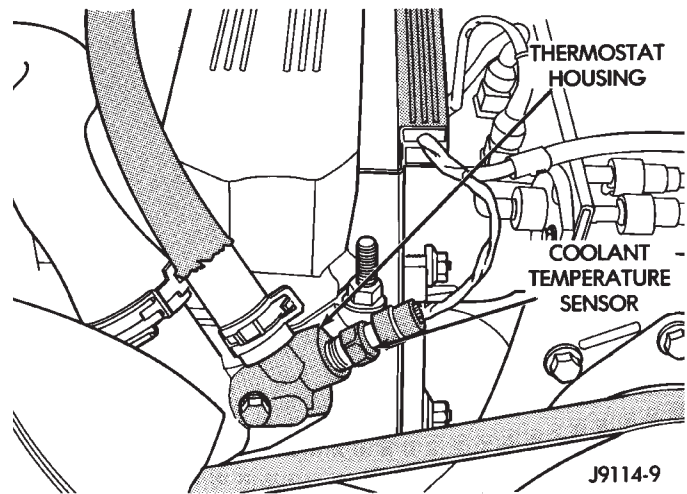

Fig. 4 Engine Coolant Temperature Sensor—Typical
The coolant temperature sensor is installed in the thermostat housing (Fig. 4).
- (1) Drain cooling system until the coolant level is below the cylinder head. Observe the **WARNINGS** in Group 7, Cooling.
- (2) Disconnect the coolant temperature sensor wire connector.
- (3) Remove the sensor from the thermostat housing (Fig. 4).